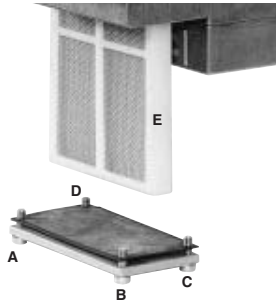

Fig. 48
- 2 Remove screws 1 ÷ 6 (Fig. 48).